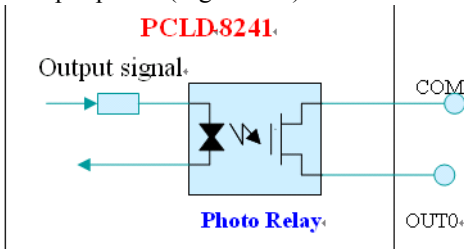

Figure D.2:
- 64 output points (Figure D.2)